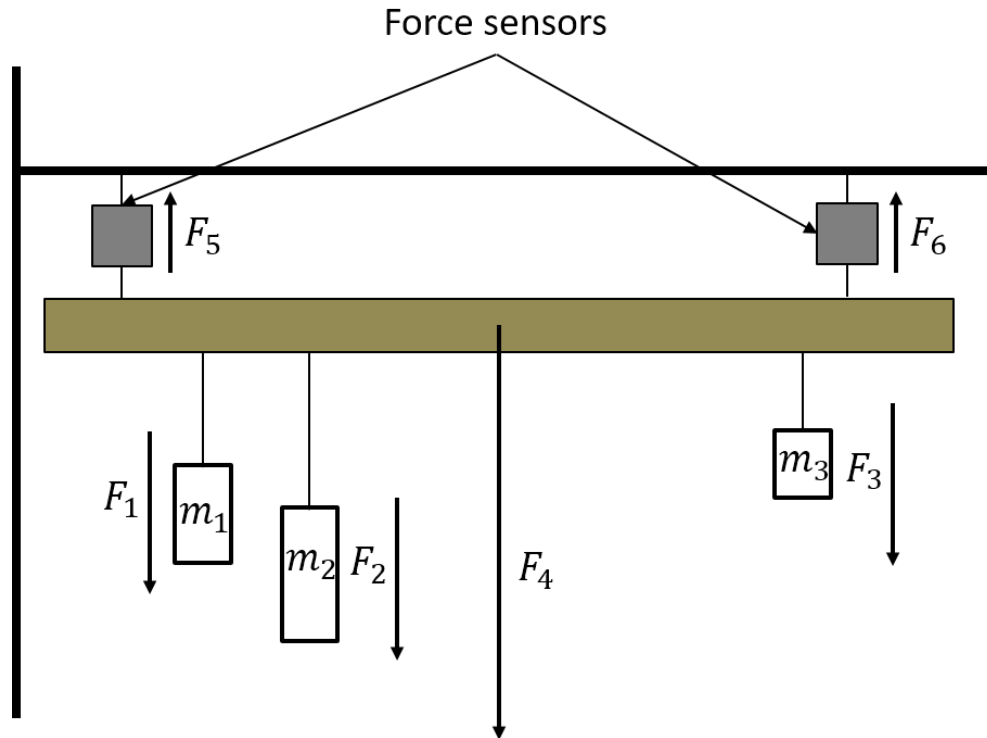

Figure 2: Diagram of the torque experiment setup.
5. While maintaining the Record button on, set up the meter stick and *force sensors* as shown in Figure 2. The meter stick will be suspended from a beam via the two force sensors. These sensors are used to determine the upward vertical forces at these positions. The force sensors must be attached vertically.